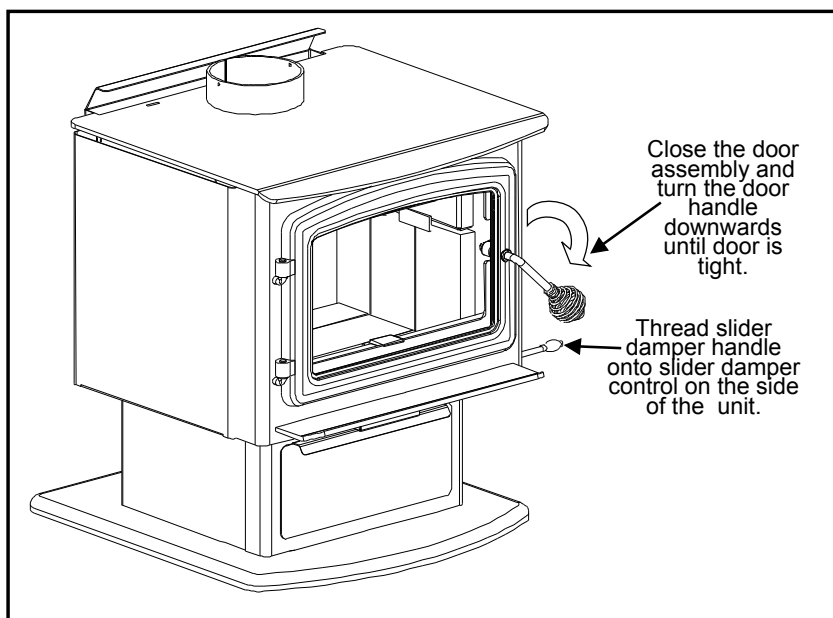

Figure 44: Closing Door.
3. Open and close the door, applying pressure down, to ensure the door assembly is properly seated on the hinges. Refer to Figure 44.